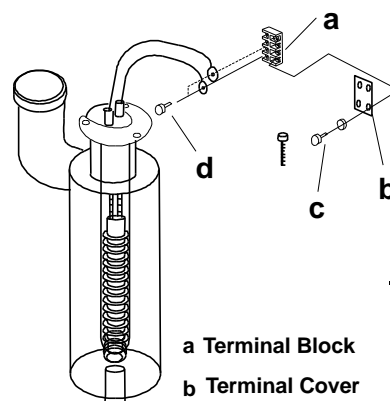
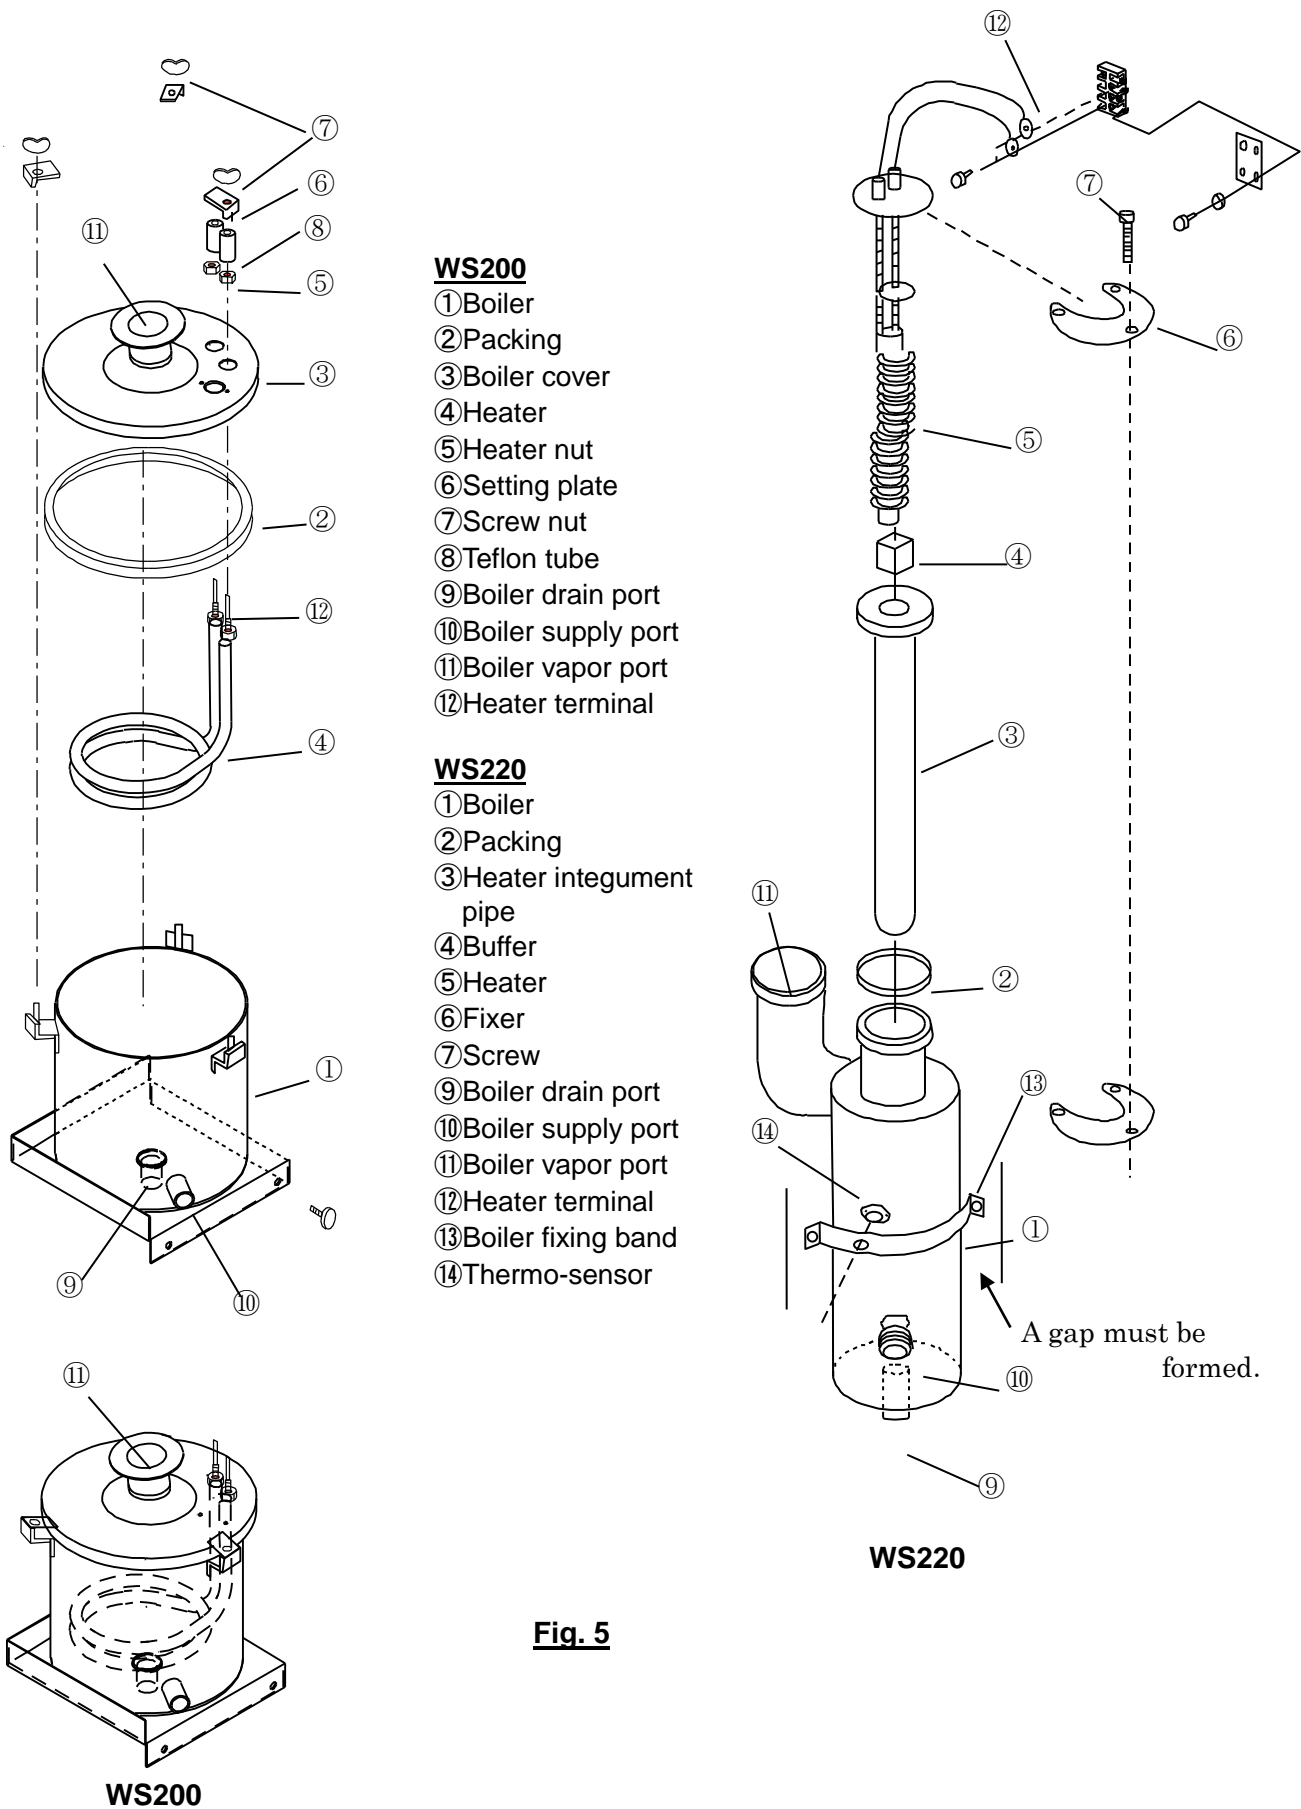

Fig. 5-1
Fig. 5
2-A) WS200 (See Fig. 5 on the next page.)
2-B) WS220 (See Figs. 5 on the next page and 5-1 on this page.)
1. WS200 (See Fig. 5 in Page 17)
2. WS220 (See Fig. 5 in Page 17 and Fig. 5-1 in Page 16)